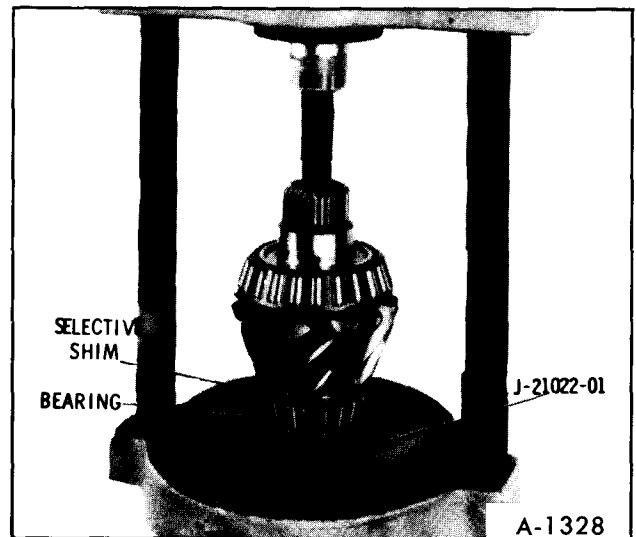

Figure 40—Installing Pinion Front Bearing And Shim
13. Position correct shim on drive pinion and install the drive pinion front bearing as shown in Figure 40.